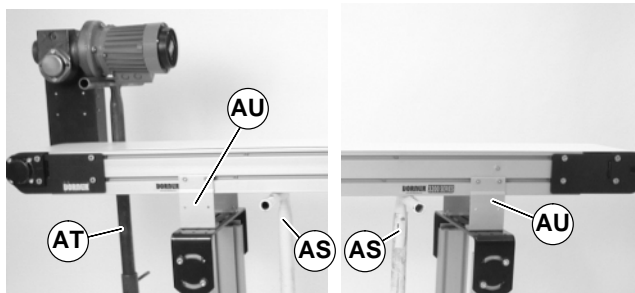

Figure 21
- Place temporary support stands (AS of Figure 21) at both ends of the conveyor. Place an additional support stand under the drive motor (AT), if equipped. See **WARNING**.
- Remove mounting brackets (AU of Figure 21) from one side of conveyor. (Reverse steps 3 & 4 of "Mounting Brackets" section on page 6).
1. Ensure temporary support stands (AS of Figure 21) are placed at both ends of the conveyor. Place an additional support stand under the drive motor (AT), if equipped. See **WARNING**.